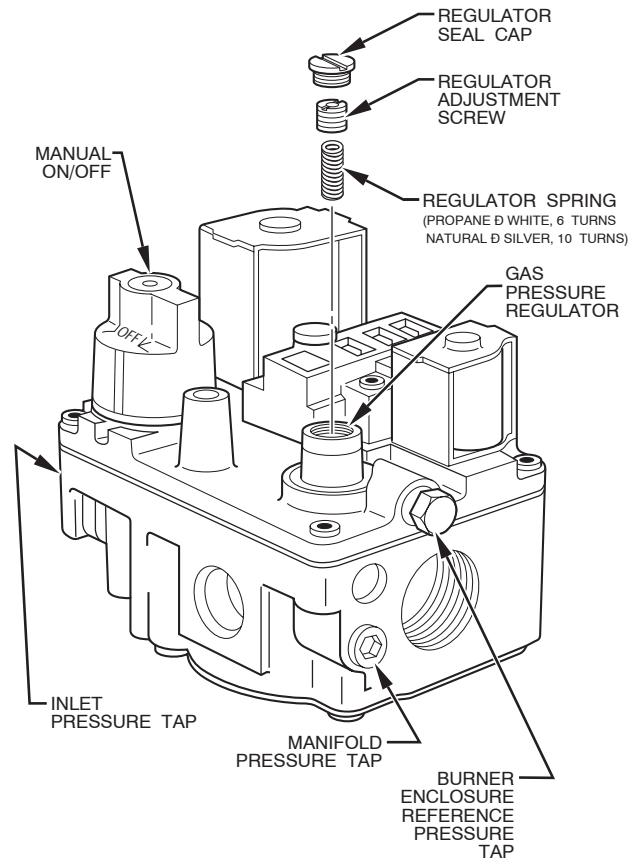

Fig. 36 – Single Stage Gas Valve (With Manual Control Knob), Series E
- Remove regulator seal cap. (See Fig 36, 37, or 38.)
- Remove 1/8-in. pipe plug from inlet pressure tap on gas valve. (See Fig. 36, 37, or 38.)
2. Remove 1/8-in. pipe plug from manifold pressure tap on gas valve. (See Fig. 36, 37, or 38.)
3. Attach manometer to manifold pressure tap on gas valve (See Fig. 36, 37, or 38.)
- a. Remove regulator adjustment seal cap. (See Fig. 36, 37, or 38.)
- 6. Remove manometer and reinstall manifold-pressure tap plug. (See Fig. 36, 37, or 38.)